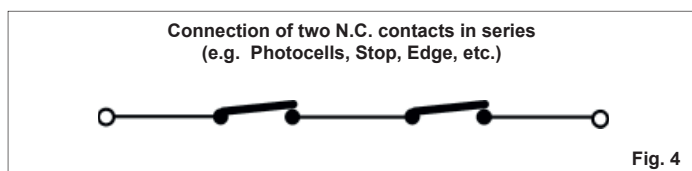

Fig. 4
If two or more safety devices have the same function (opening, closing, opening and closing, edge), the contacts must be connected to each other in series (fig. 4). N.C. contacts must be used.
**To install several safety devices, connect the N.C. contacts in series (fig.4).**
To install several safety devices, connect the N.C. contacts in series (fig.4).